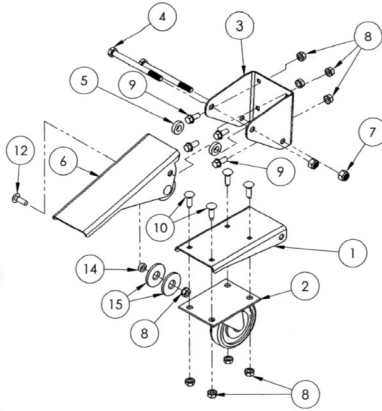
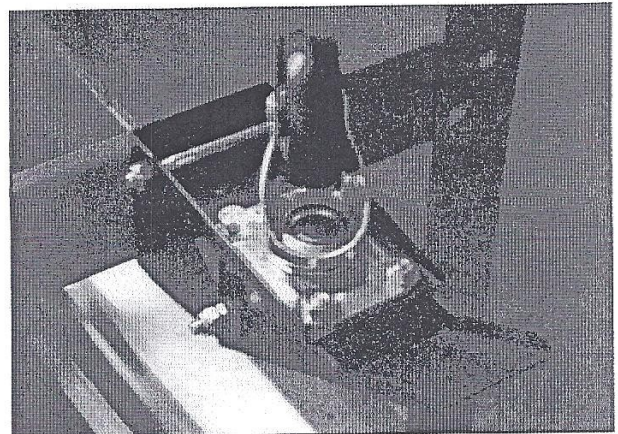

Figure 19. Locking caster
Figure 20. Locking caster
- Assemble the single locking caster (Figure 19).
- Attach the caster to the caster lower arm using (4) 5/16"-18 x 1/2" hex bolts and (4) 5/16"-18 hex nuts. Attach the caster assembly to the mounting bracket using (1) 5/16"-18 x 3-3/4" hex bolt and (1) 5/16"-18 locking hex nut, tightening enough for the mounting bracket to be secure, yet still move. Attach the upper arm to the mounting bracket using (2) nylon bushings, (1) 5/16"-18 x 3-3/4" hex bolt and (1) 5/16"-18 locking hex nut. The bushings are placed between the upper arm and the mounting bracket. Insert the bolt into the top hole of the upper arm, tightening enough for the arm to be secure, yet still move.
- Mount the assembly to either center bottom brace of the RouterShop using (4) 1/4"-20 x 1/2" hex bolts and nuts. Securely tighten the bolts (Figure 20).